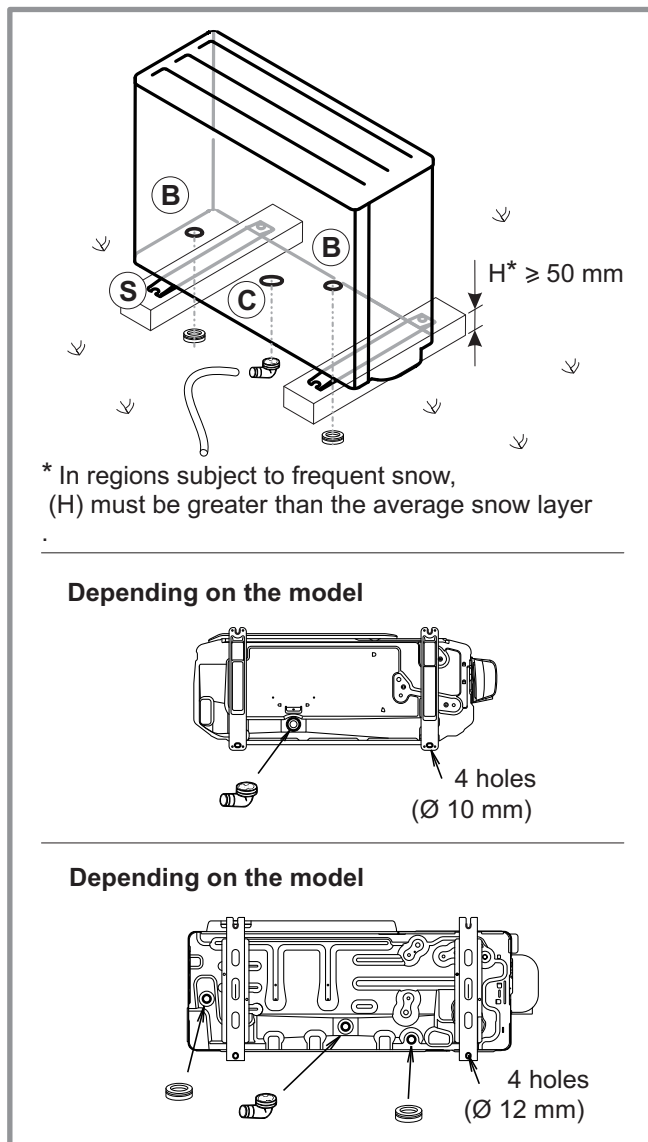

figure 12 - Positioning of the outside unit, draining away the condensate
- Water may drain away from the outdoor unit when it is operating. Do not install the appliance on a paved terrace; choose a well-drained place (e.g. gravel or sand). If the installation is in an area where the temperature can be lower than 0°C for a long period, check that the presence of ice does not present any danger. A drainage pipe can also be connected to the outdoor unit (figure 12, page 14).
The outdoor unit must be raised at least 50 mm above ground level. In areas prone to snow, this height should be increased but should not exceed 1,5 m (figure 12).
(see figure 12)